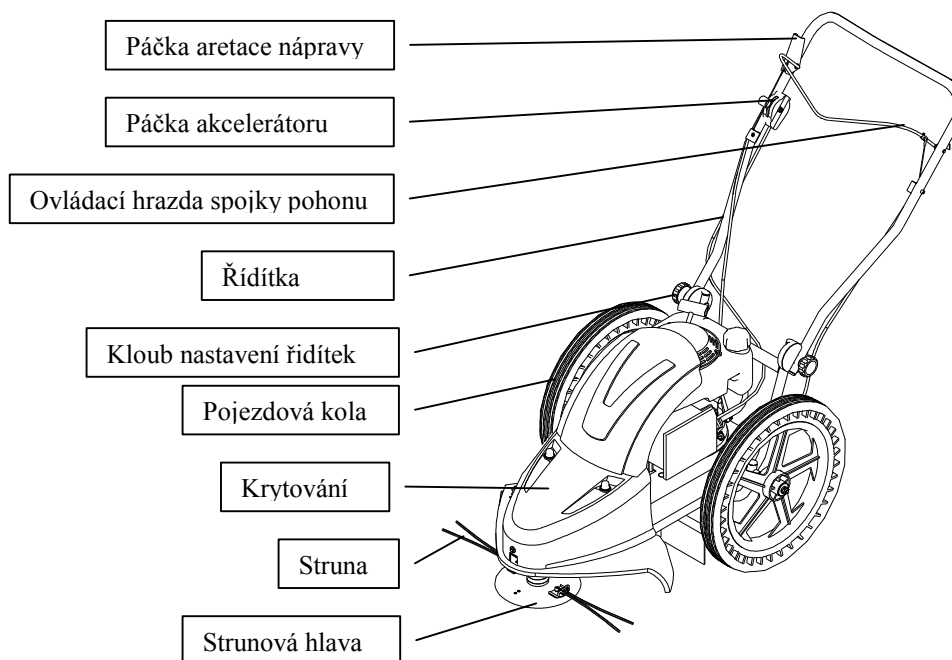

Figure 1
1. Press the axle arrestment lever (see Fig. 1) down with the thumb of your right hand until the arrestment pin is released.